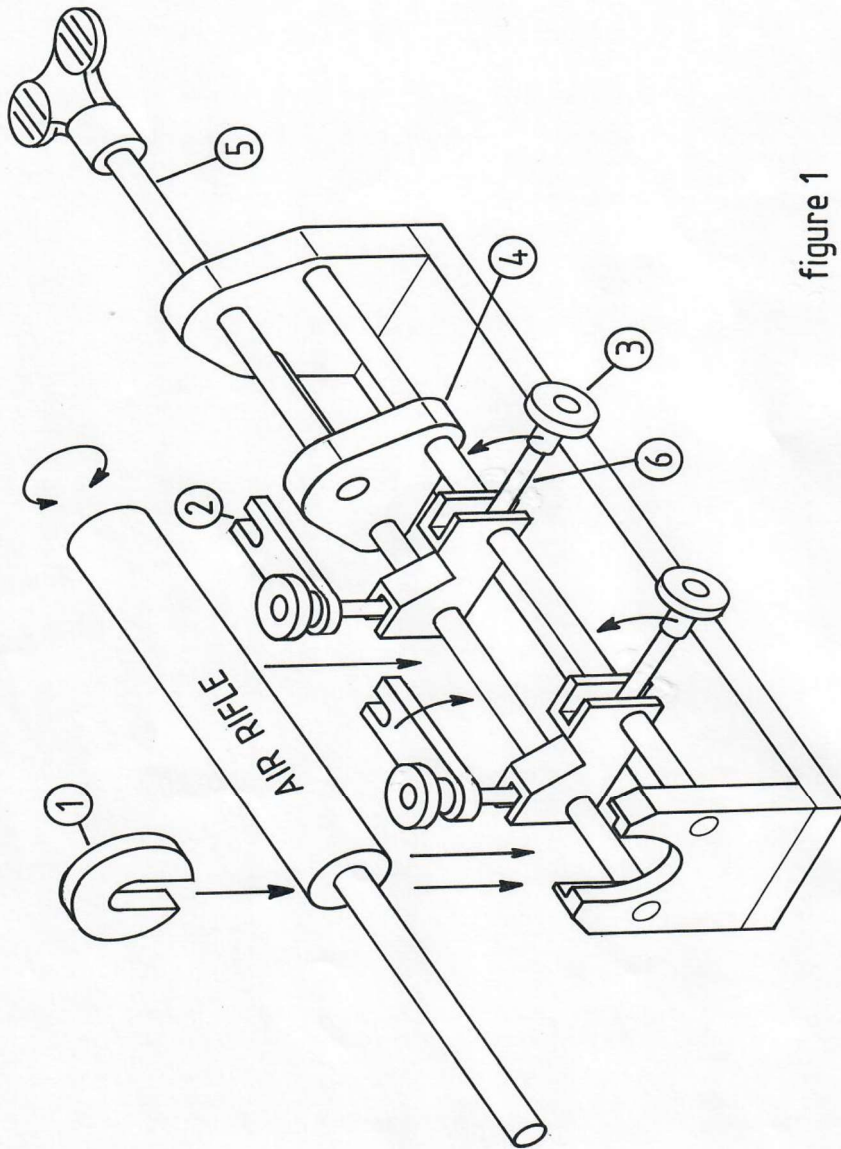

figure 1
1. Place the air rifle as follows in the SC91XL (see figure 1):
- **place stop disc (1) over the barrel, in the recess of the frame.** (otherwise the rifle will shift out of the SC91XL)
See figure 1. Keep the eye bolts (6), knurled knobs (3) and threaded spindle (5) free of dust and grease these steel parts lightly to prevent corrosion and friction/galling.